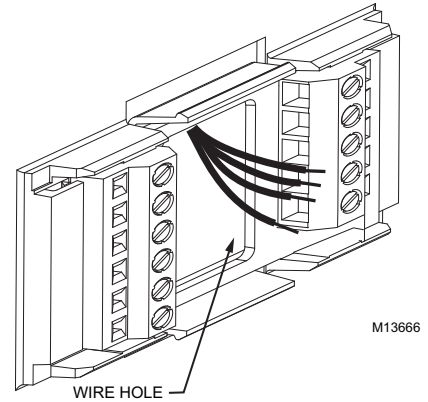

Fig. 9. Insert wires into terminal block.
3. Insert the wires into the terminal block and tighten each screw terminal. See Fig. 9.